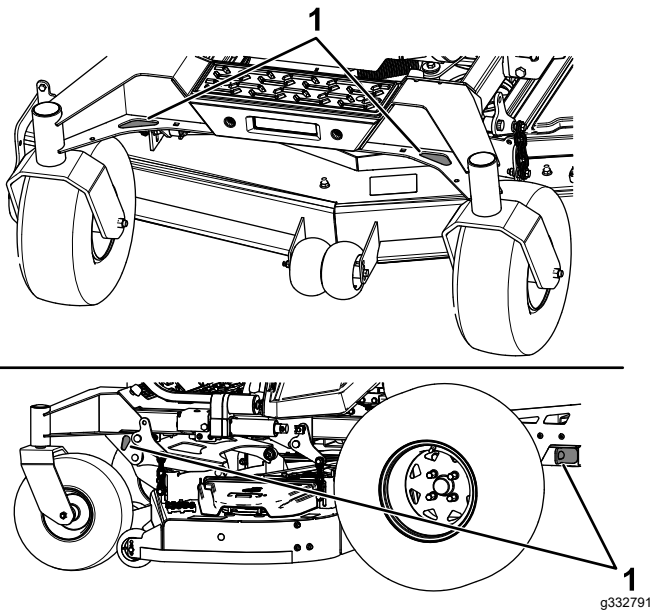

Figure 41
6. Tie down the machine near the front caster wheels and the rear frame with straps, chains, cable, or ropes (Figure 41). Refer to local regulations for tie-down requirements.